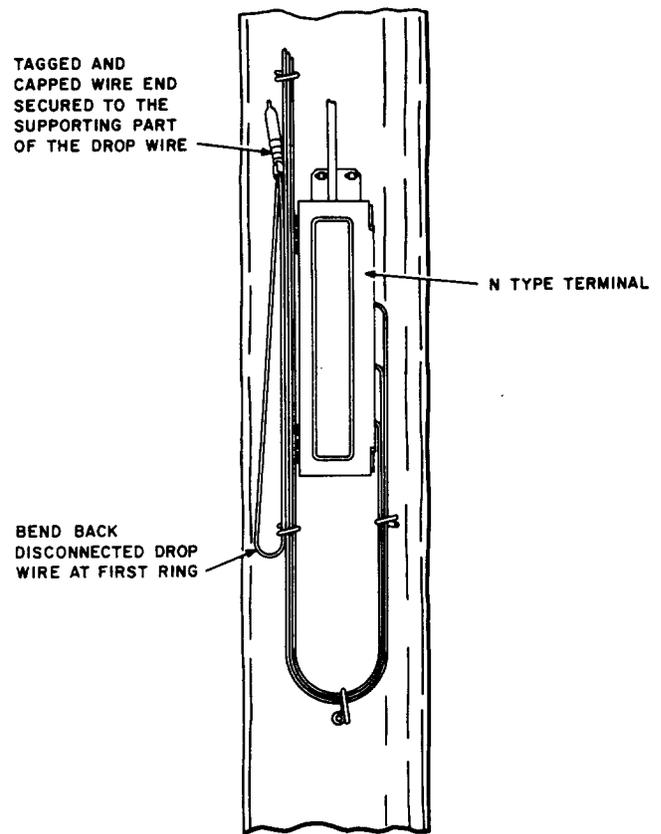

Fig. 4—N-Type Terminal, Pole Mounted
- (1) Pull the free end of wire out of the terminal.
- (2) Lay wire back on itself at the first ring below the terminal, tag and cap the free end and then secure the free end to the supporting part of the wire (Fig. 4).